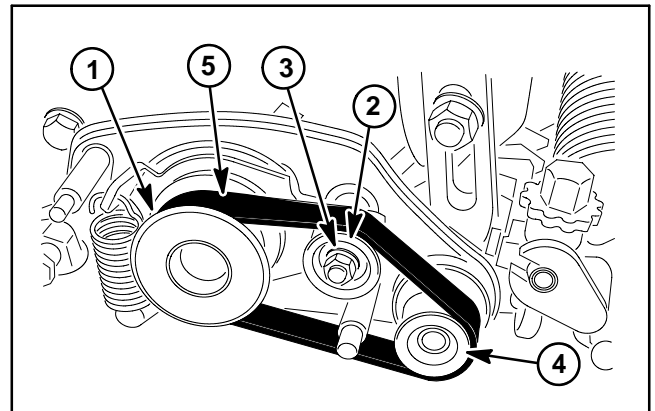

Figure 3
3. Pivot idler pulley by placing a 12mm wrench on pulley nut and rotating idler bracket to relax belt tension. Slip groomer drive belt off pulleys (Fig. 3). Carefully release idler bracket.
4. Install new drive belt to drive pulley, idler pulley and driven pulley observing correct belt routing (Fig. 3).